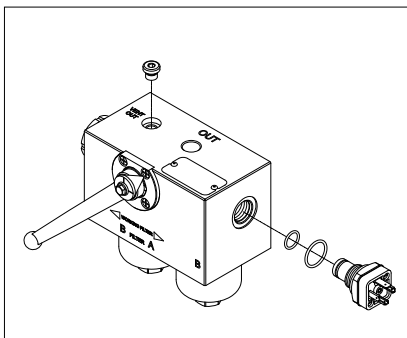

fig. 26
- (Fig. 26) Replace the O-rings of the indicator body and the breather plug